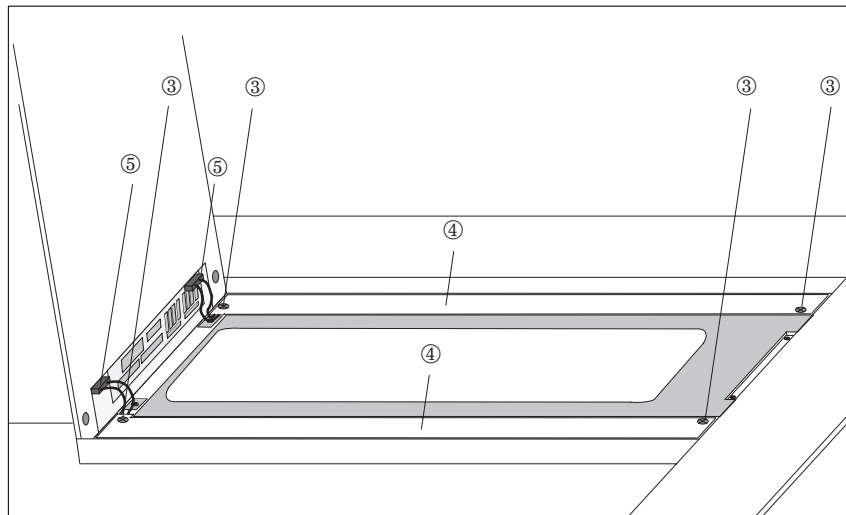

Figure 18-1 Replacing the back-lighting
3	Undo two screws per fluorescent tube ③ (figure 18-1) and remove the covers ④.